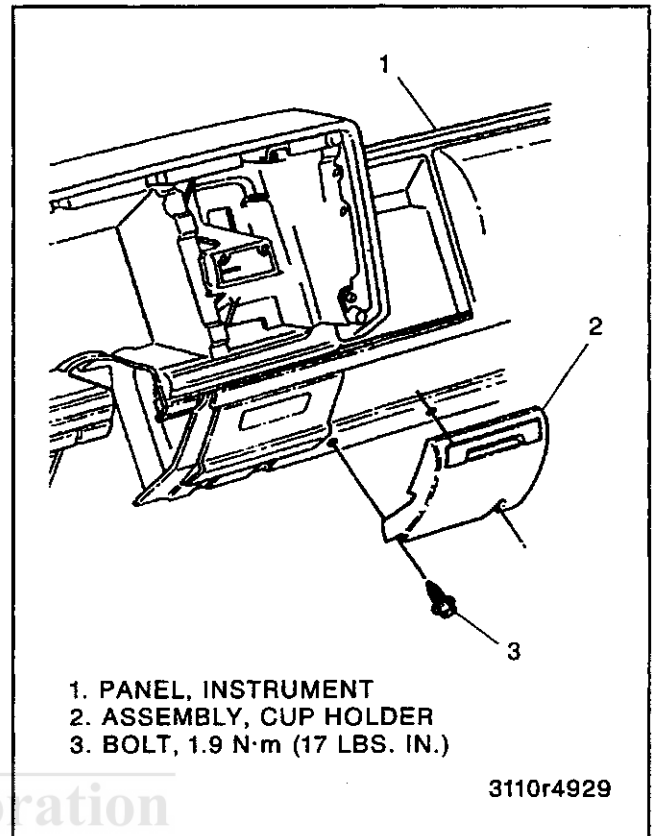

Figure 7—Cup Holder
**Remove or Disconnect (Figure 7)**
**Install or Connect (Figure 7)**